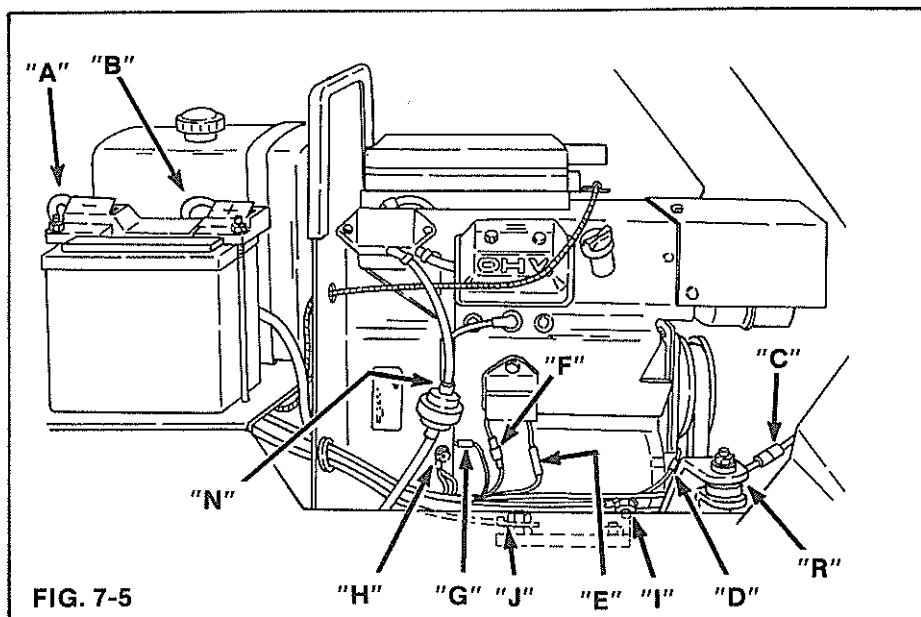

FIG. 7-5
## REINSTALLATION (Figures 7-5, 7-6 & 7-7)
6. Connect the fuel line at filter (N), Figure 7-5 and 7-6.
**NOTE** - The fuel line from the tank must be routed thru the engine support away from driveshaft and other moving parts. Open fuel shut off valve (M) on fuel tank Figure 7-5.
8. Install all wires thru heat shield. Connect black ground (-) cable to right hand rear engine mounting bolt (J), Figure 7-5. Connect red positive (+) cable (I) to starter terminals.
9. Install block ground wire (H) to engine blower housing. Carefully connect blue ignition wire (G) to tab at engine.
10. Connect red/black wire (F) to engine lead.
11. Connect red wire (E) to regulator lead.